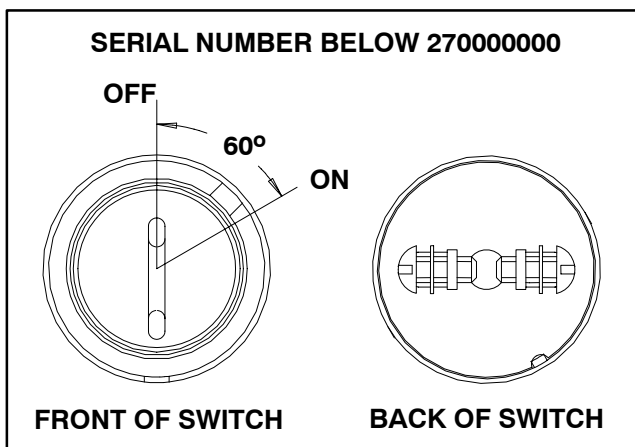

Figure 7
The supervisor key switch used on sprayers with serial numbers below 270000000 is shown in Figure 7. The key switch used on sprayers with serial numbers above 270000000 is shown in Figure 8.
A. For sprayers with serial numbers below 270000000 (Fig. 7), when the key is in the ON position, continuity should exist between the two switch terminals. In the OFF position, there should be no continuity between the switch terminals.